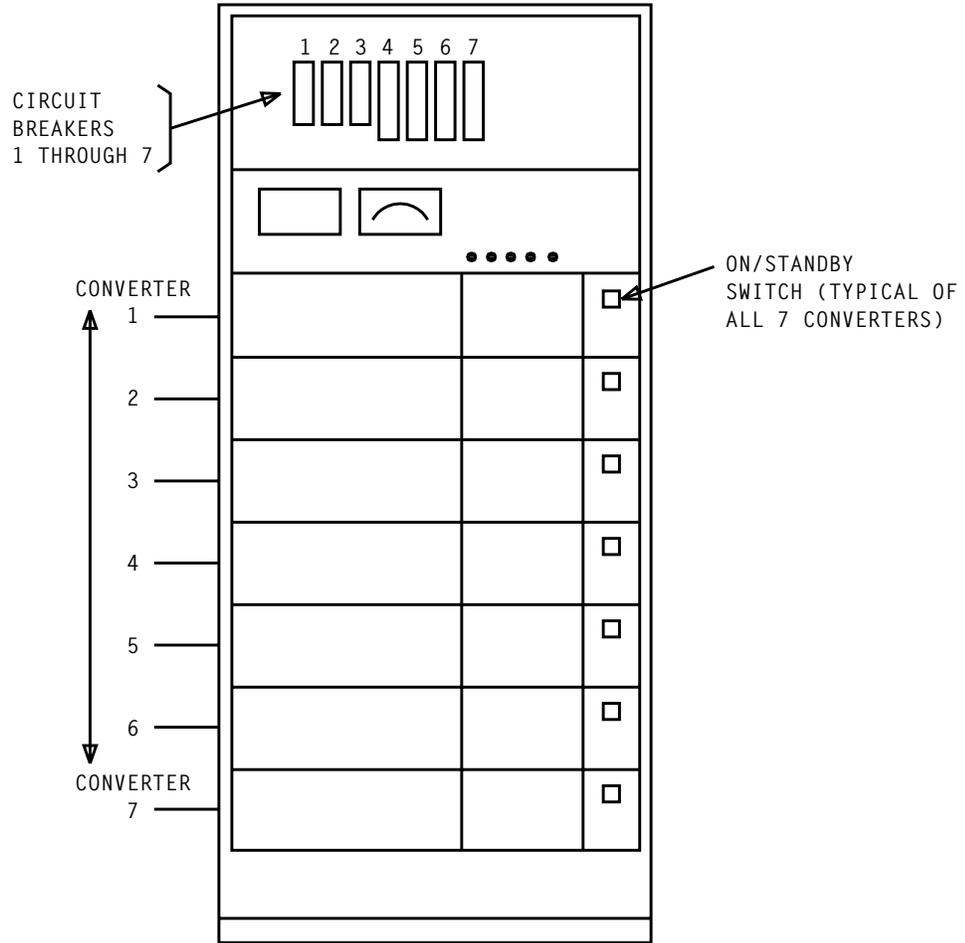

Figure 1. 620C/625C Power Plant - Front View
6. Set the remaining circuit breakers to the **ON** position per Figure 1.